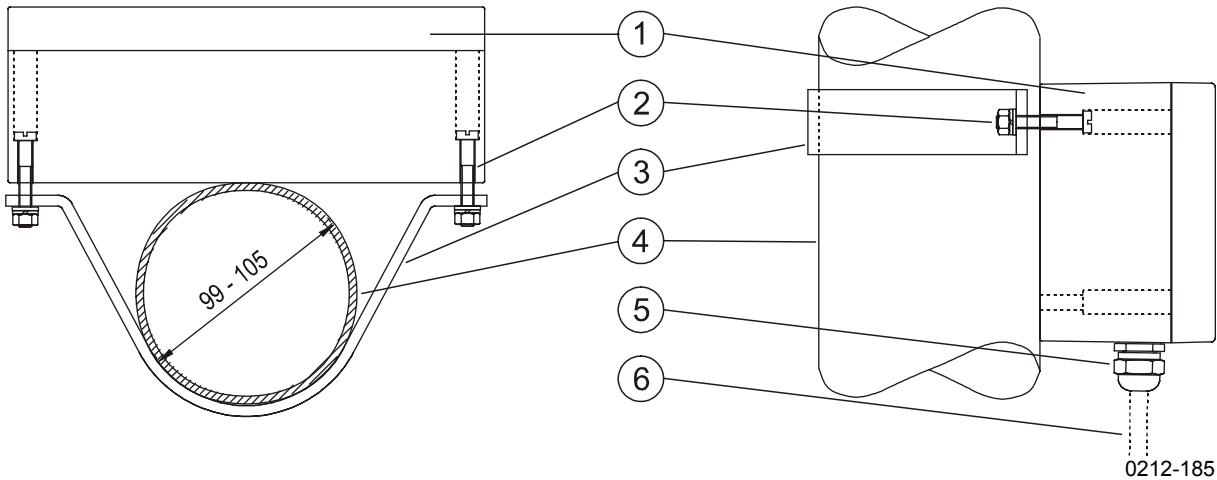

Figure 2 Mounting WHP25 Mains Power Supply on a Pole Mast
2. Attach the unit to the mast at a suitable place with the provided accessories and the standard mounting clamp. Refer to Figure 2 on page 10.
The following numbers refer to Figure 2 above.